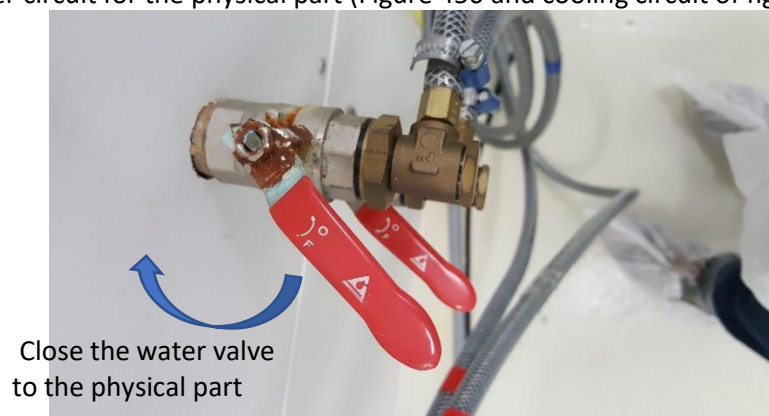

Figure 456: valve for the water circuit.
- Close the water circuit for the physical part (Figure 456 and cooling circuit of figure 2.3.6)